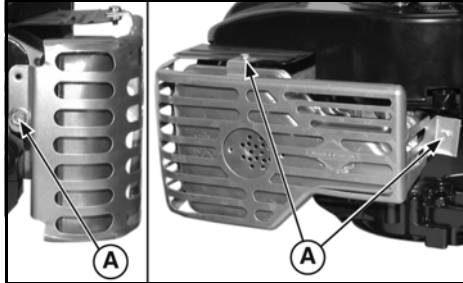

Figure 18
- Remove screws holding muffler guard (A, Figure 18). Remove guard and set aside.